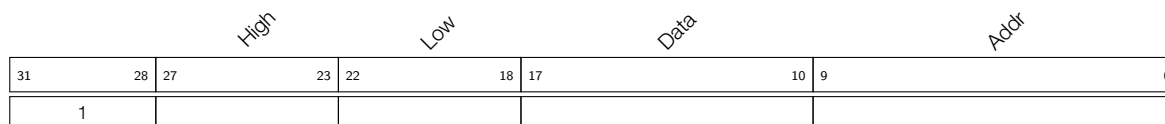

Figure 28-24. Instruction Type - REG\_WR
**Operand**    **Description** - see Figure 28-24